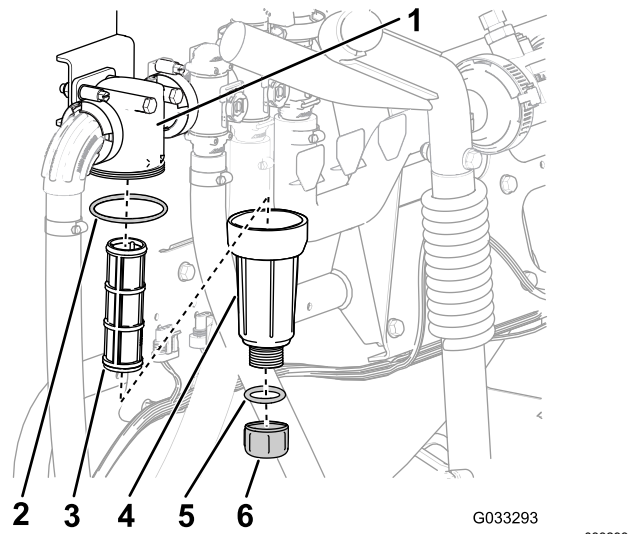

Figure 31
- Align a drain pan under the pressure filter (Figure 31).
- Rotate the drain cap counterclockwise and remove it from the bowl of the pressure filter (Figure 31).
- Rotate the bowl counterclockwise and remove the filter head (Figure 31).
- Remove the pressure filter element (Figure 31).
- Check the gasket for the drain plug (located inside the bowl) and the gasket for bowl (located inside the filter head) for damage and wear (Figure 31).
- Install the pressure filter element into the filter head (Figure 31).
- Install the bowl onto the filter head, and tighten by hand (Figure 31).
- Assemble the drain cap onto the fitting at the bottom of the bowl, and tighten the cap by hand (Figure 31).